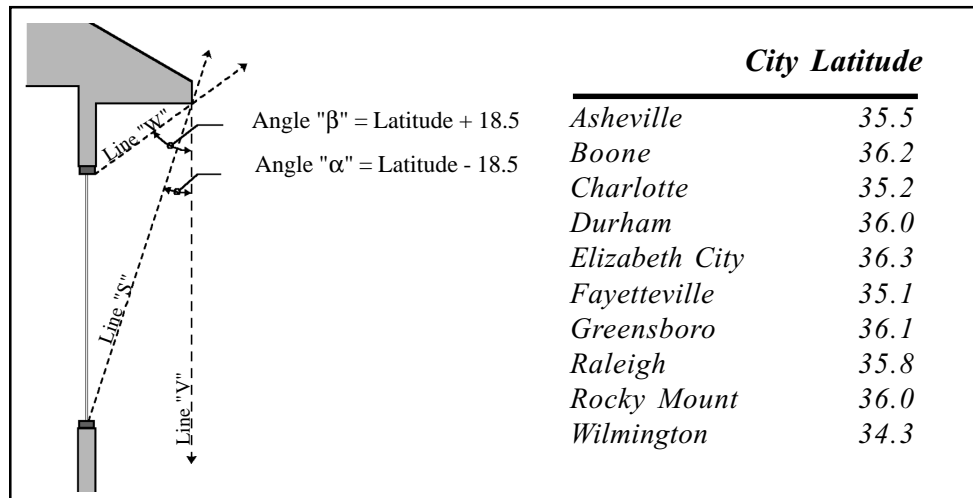

Figure 3. Calculating overhangs for sites in North Carolina
*Figure 3*, taken from *Building with Passive Solar* by the Southern Solar Energy Center, illustrates how orientation affects overhang effectiveness. The chart is designed to size overhangs to provide shading for the five most severe sun hours on August 1. For example, consider Raleigh, which sits at a latitude of  $36^{\circ}$ . Find the point where  $36^{\circ}$  intersects the "south-summer" curve. Then draw a line vertically downward to determine the feet of vertical wall in shade per foot of eave overhang. For Raleigh, this figure is about 3.3; that is a 1 foot overhang would shade 3.3 feet down the wall; a 2 foot overhang would shade 6.6 feet, and so on.